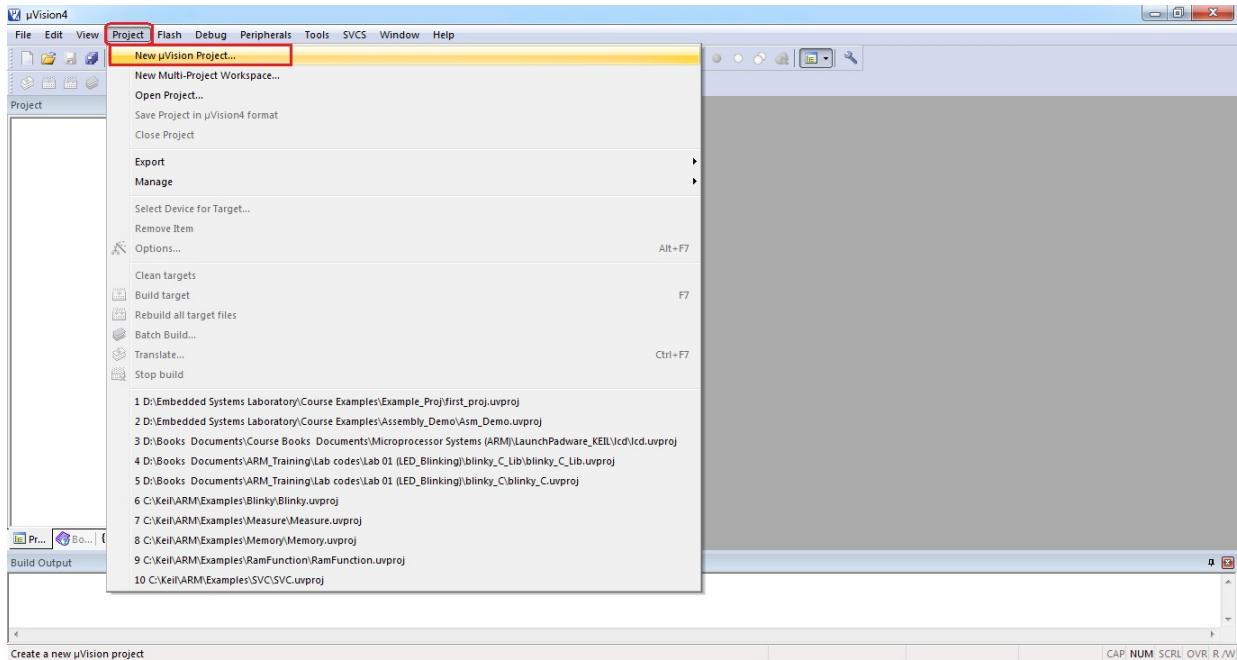

Figure 1.8: Create new μ Vision project
2. Click on *Project* tab and choose **New μVision Project** from the drop-down list as shown in Figure 1.8